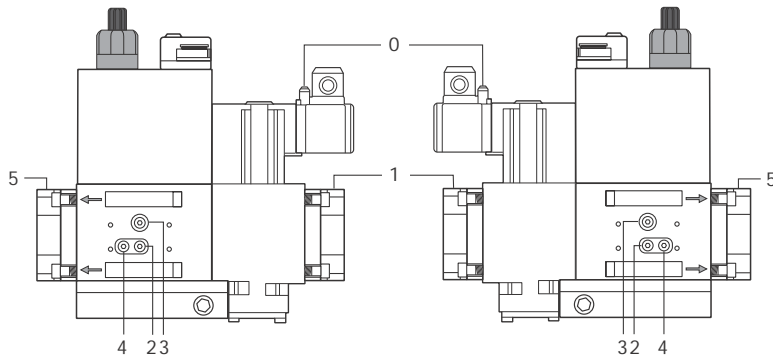
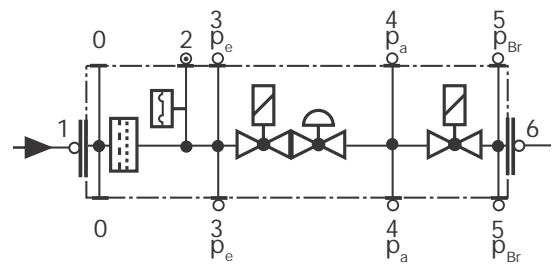

Fig. 28
Fig. 29
- Change the filter if the pressure difference between pressure connection 1 and 2 (Fig. 28-Fig. 29) $Dp > 10$ mbar.
- Change the filter if the pressure difference between pressure connection 1 and 2 (Fig. 28-Fig. 29) is twice as high compared to the last check.